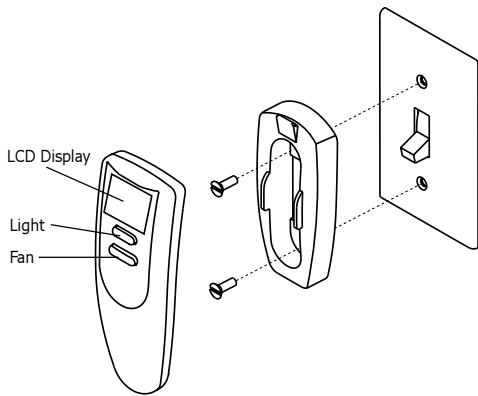

Figure 4 - Remote Holder Assembly
2. Mount the remote holder over the ceiling fan's wall switch using the existing wall plate screws. Refer to Figure 4.
2. Press the remote control's fan speed button (refer to Figure 4). The fan should start and reach its maximum speed. If